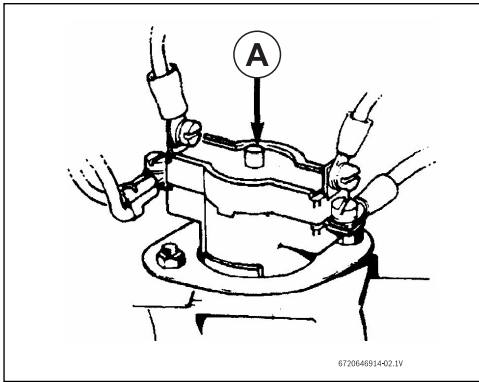

Fig. 2
- The cut-out will trip only in exceptional circumstances (Fig. 2 ). Call your service person or Bosch Thermotechnology Corp. if this happens frequently.